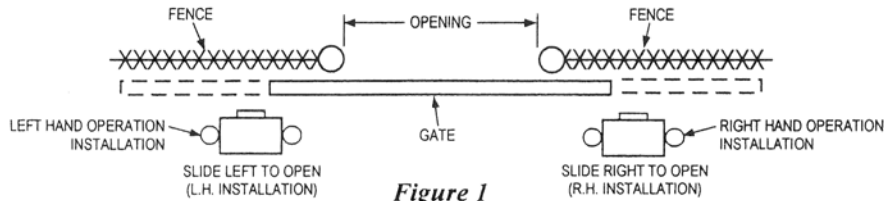
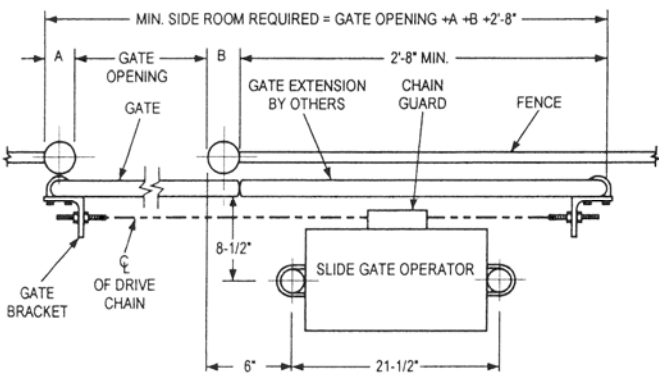

Figure 1
Figure 2
Gate must slide freely to fully opened and fully closed position. Gate and/or extension must extend beyond the operator location as shown in fig. 1, fig. 2, and fig. 3 (next page). Operator will be placed as shown, in fig. 1 page 7, for left and right hand installation.
1. Layout mounting post and electrical conduit locations (See Fig. 2 & 3).
- Note:** Remove operator top cover and chain guard for access. If gate extension is required, do so before installing operator (See Fig. 2).
2. Mount (1) gate bracket at each end of gate as shown (See Fig. 2). Note: Height of gate bracket center line is to be even with the drive chain exiting operator (See Fig. 3).
9. Position chain take-up bolts in gate brackets, at each end of gate, so chain aligns with drive sprockets (See Fig. 2).